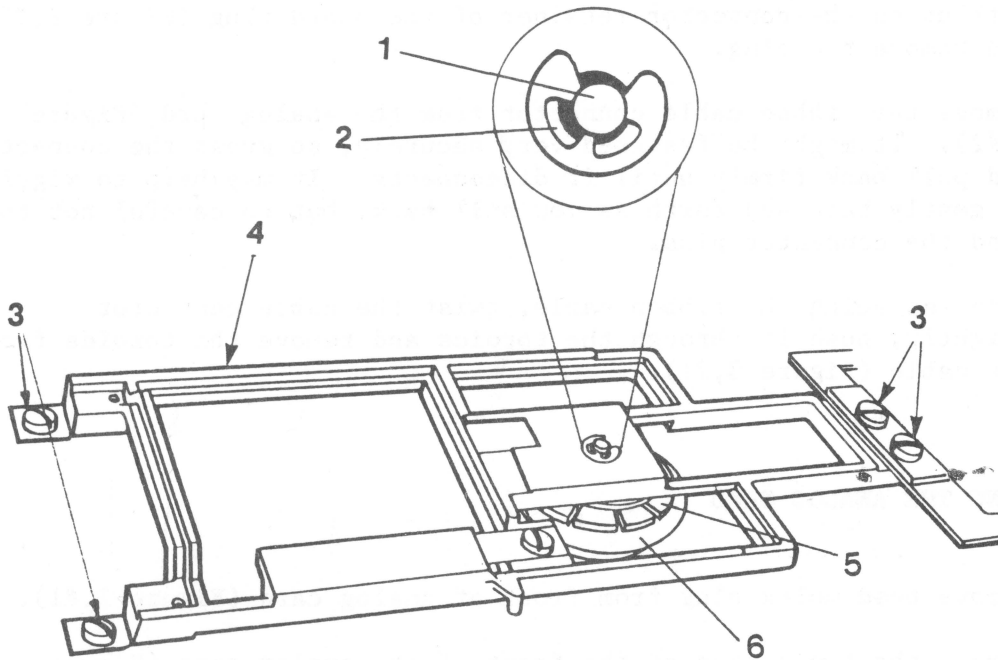

FIGURE 4
1. With the Disk Adjustment Tool centered, observe the Collect Hub (Figure 4, #5).
5. To adjust the Collet Hub look straight down on collet shaft, (Figure 4, #1) and close door. Check to see that shaft is centered.
7. Loosen four screws--two on back of bracket and two that hold bracket to door (Figure 4, #3).
8. Close door, ensuring that collet hub (Figure 4, #5) is seated in its receptacle (Figure 4, #6).
9. Looking straight down on collet shaft, move bracket around until shaft is centered in hole (Figure 4, #2).